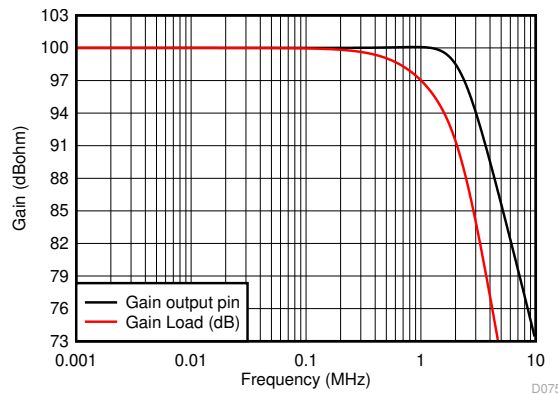

图 8-8. Small-Signal Response for 100-k Ω Transimpedance Gain
- Assume a nominal source capacitance value of 100 pF. This normally comes from the capacitance versus reverse bias plot for the photodiode. No reverse bias is illustrated in 图 8-8, but the current source is typically a back biased diode with a negative supply on the anode and the cathode connected to the op amp inverting input. In this polarity, the signal current sinks into the diode and raises the op amp output voltage above ground.
Implementing this design and simulating the performance using the TINA model for the response to the output pin and to the final capacitive load shows the expected results of 图 8-8. Here, the exact 2.2-MHz flat Butterworth response to the output pin is shown with the final single pole rolloff at 1 MHz at the final 2.2-nF capacitor.